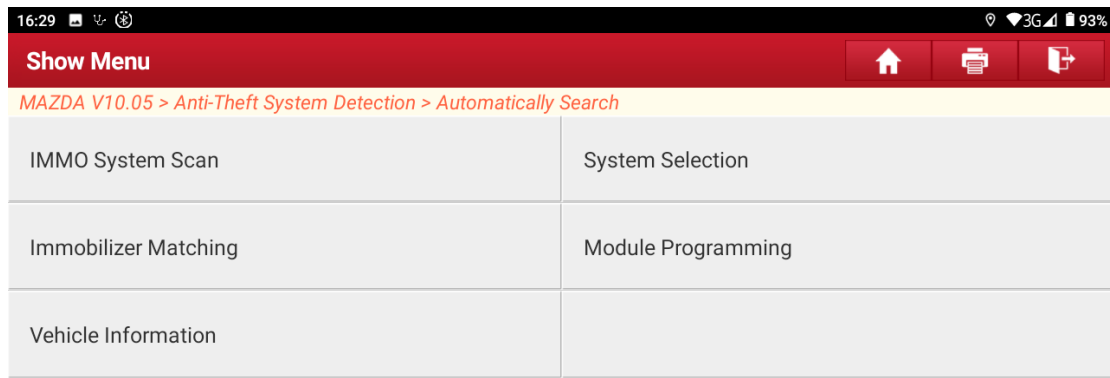

Figure A6
4. Choose [Immobilizer Matching]. See Figure A6.